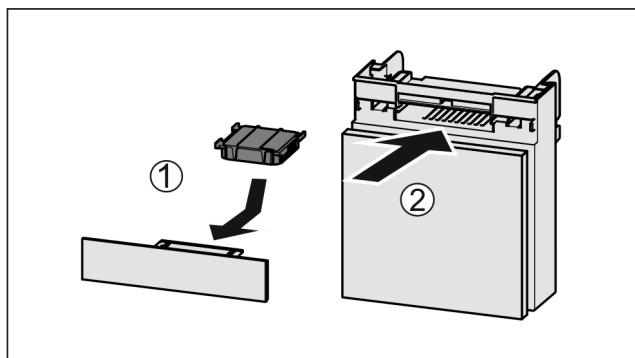

Fig. 111
- Insert the carbon filter as shown in the diagram Fig. 111 (1).
- Push the compartment in Fig. 111 (2).